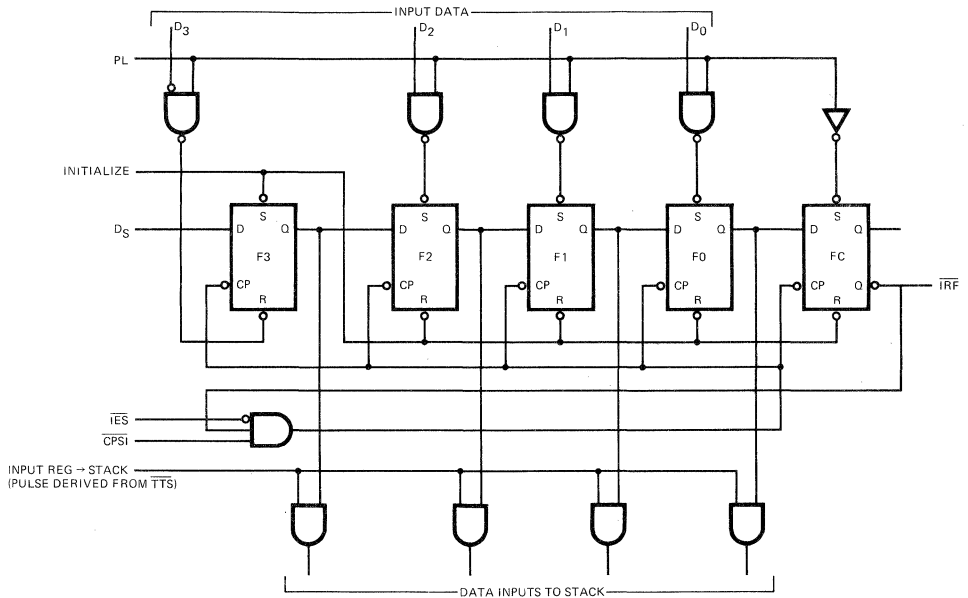

Fig. 1
Figure 1 is a conceptual logic diagram of the input section. As described later, this 5-bit register is initialized by setting the F3 Flip-Flop and resetting the other flip-flops. The  $\bar{Q}$  Output of the last Flip-Flop (FC) is brought out as the "Input Register Full" output (IRF). After initialization this output is HIGH.